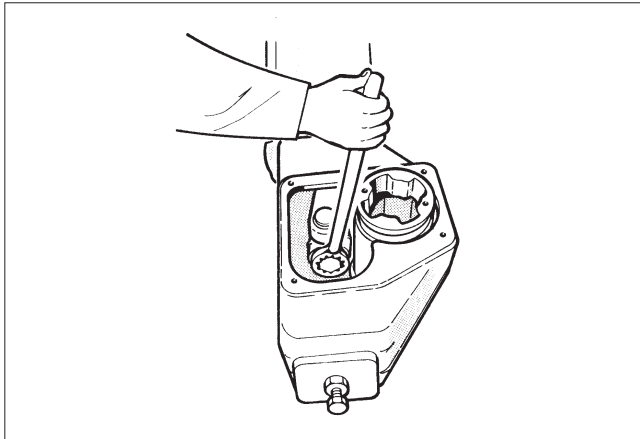

Fig. 8 Opening the fastening screw of the actuator bearing unit
- Remove the cover of the housing (2).
- Loosen the fastening screw (29) of the bearing unit and the fastening screws of the cylinder (31) from the cylinder base (6). Should the piston turn with the screw (29), remove the end of the cylinder (44) and stop the turning with the piston fastening screw (28). See Figure 8.
- Remove the housing cover (2).
- Loosen the fastening screw (29) of the bearing unit (5), see Figure 8.